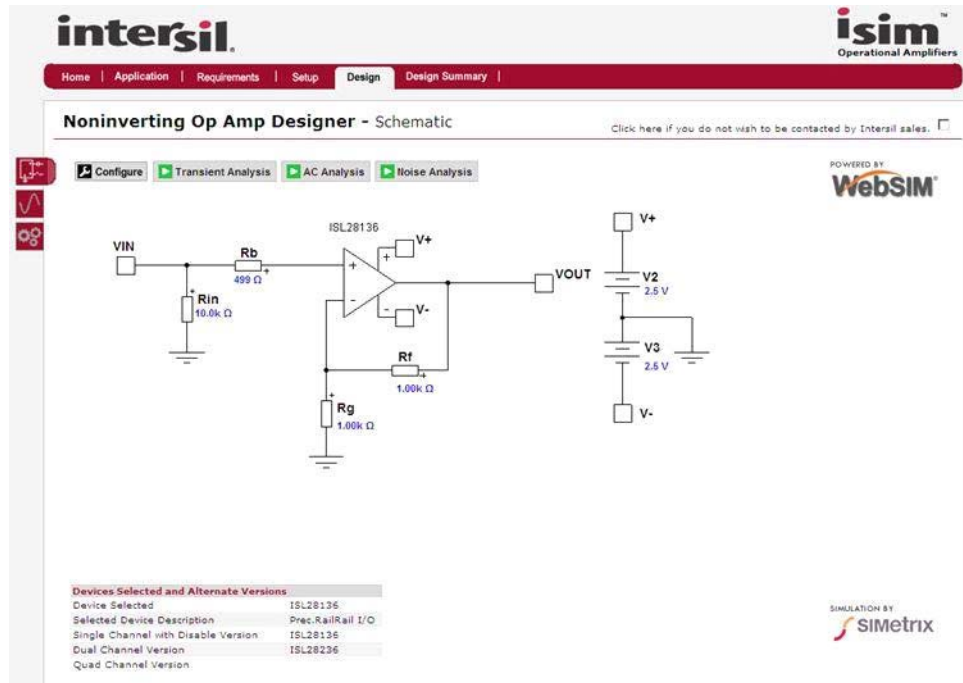

FIGURE 7. DESIGN DELIVERED FROM THE DEFAULT DESIGN FLOW
Hitting the "Design" button at the upper right or lower left will take the desired targets and selected device and execute the design for the feedback and gain resistors as well as the Rb element. Doing that from the default page of Figure 6 gives the design shown in Figure 7.
1. Noise added by the resistors should not dominate the output noise. In the circuit of Figure 7 this includes the Rb element
2. The effect of the total feedback loading is considered. There, the  $R_f + R_g$  appear as a load in this design and both a maximum current for the specified maximum output  $V_{p,p}$  is checked as well as a minimum loading before the frequency response is impacted through op amp output impedance. For this default design, the ISL28136 is looking for something  $\geq 2k\Omega$  load before 2nd order output impedance issues start to impact the small signal frequency response giving increasing deviation from a gain bandwidth calculation. That consideration has in fact set the  $R_f$  value in the example of Figure 7.